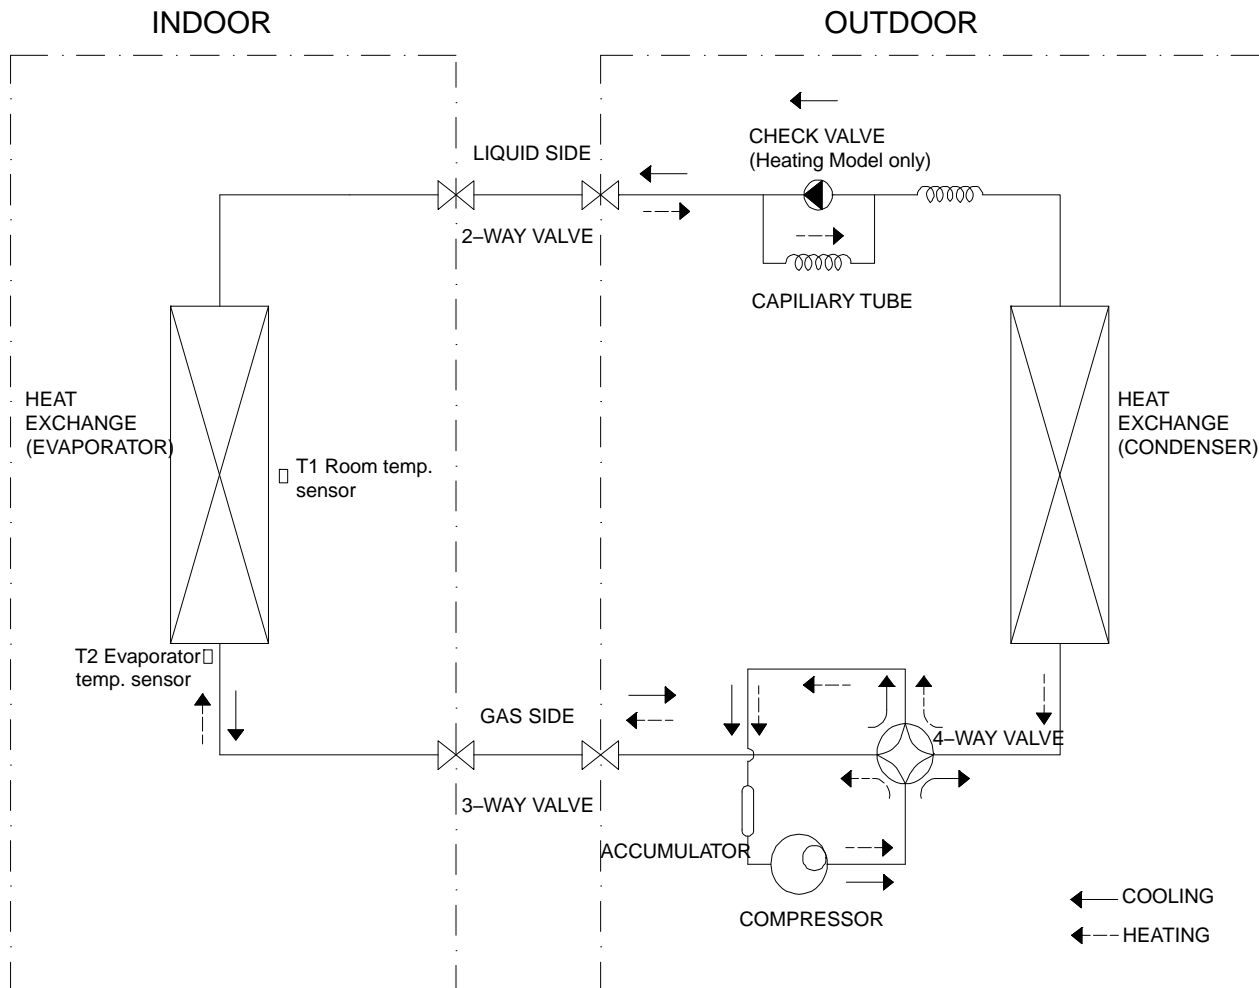

Fig. 10 – Heat Pumps
7. The factory charge contained in the outdoor unit is good for up to 25ft. (8 m) of line length. If vacuum is complete per Fig. 10 or 11, open service valves to release factory charge into the system.